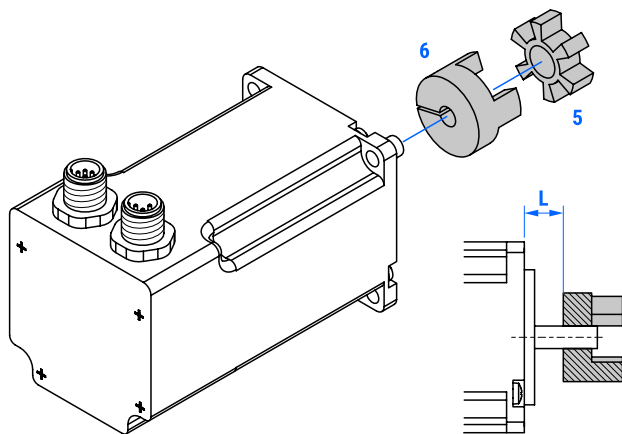

Figure 5: Step 3 and 4.
STEP 3: Place the coupling hub 2 6 on the motor shaft. Ensure that the coupling hub 2 6 and the motor shaft are correctly aligned (mounting distance L must be ensured), see Figure 5 and Table 3.